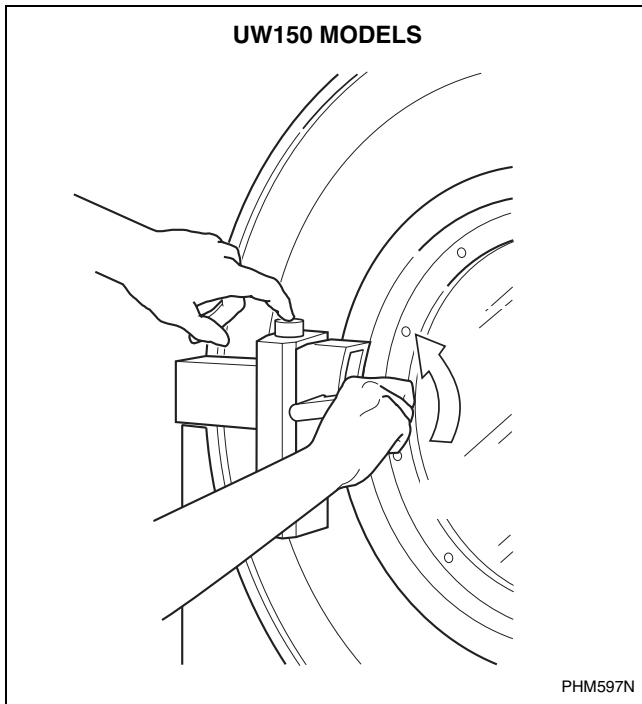

Figure 9
4. On UW150 models, use left hand to press and hold the door unlock button located on the door box. Refer to *Figure 9*.
5. On UW150 models, use right hand to turn door handle counterclockwise and swing the door right to open. Refer to *Figure 9*.